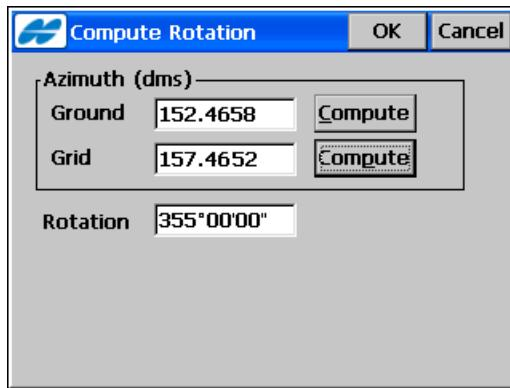
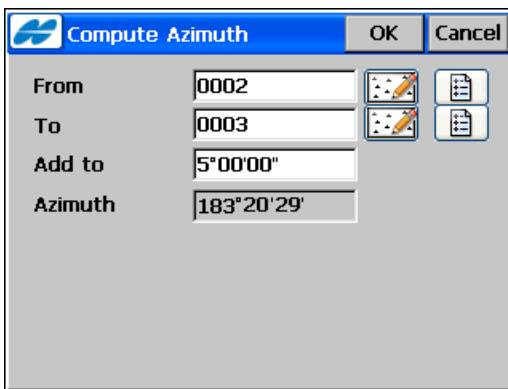

Figure 3-16. Compute Rotation
Figure 3-17. Compute Azimuth
- **[...]** – opens the **Compute Rotation** screen (Figure 3-16 on page 3-20) to compute the *Azimuth Rotation* value. For details, see Figure 3-17 on page 3-21.
The **Compute Rotation** screen (Figure 3-16 on page 3-20) computes azimuth rotation using ground and grid azimuths.
The **Compute Azimuth** screen (Figure 3-17 on page 3-21) computes the azimuth of the direction using two points.
- **OK** – saves the results and returns to the *Compute Rotation* screen (Figure 3-16).